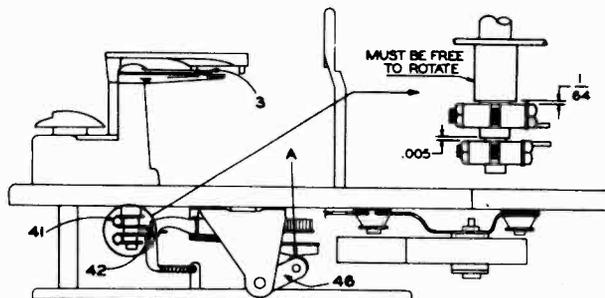
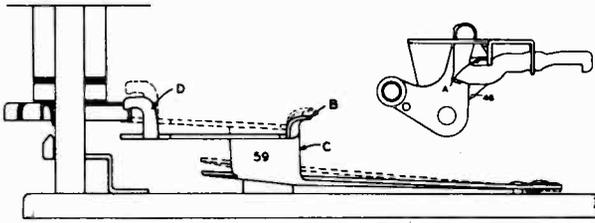

Fig. 5
Fig. 8
1. Turn the Record Shelf (4) to the 12" position.
2. Trip the Reject control and rotate the Turntable clockwise until the push off Blade reaches its farthest forward position. At this point the cam follower will be at the highest point on the Main Cam ("A" of Fig. 5).
3. Loosen the lock bolts of (41) and (42).
5. At the same time, push the Push-off Blade forward as far as possible and push the Push-off Blade and Record Shelf Assembly downward tight against the Housing (6).
6. Position the Record Shelf finger and the Toggle Assembly (41) so the 12" finger of the Push-off
1. Turn the record Shelf (4) to the 12" position.
2. Trip the Reject control and rotate the Turntable until the Push-off Cam Follower reaches the highest point on the Main Cam ("A" of Fig. 5).
3. Loosen the Push-off Blade finger (42) clamp bolt.
4. Push the Push-off Blade forward as far as possible and hold the Push-off Blade and Record Shelf assembly downward tight against the housing (6).
5. Tighten the Push-off Blade finger clamp bolt (42), leaving $\frac{1}{64}$ " vertical clearance between the shoulder of the Record Shelf shaft and the Push-off Blade finger (42).
As explained above, the weight of records on the spindle prevents the Automatic Lock Lever (59) from dropping. As the Cam Lever and Bracket assembly (46) moves forward to engage the Push-off Blade Actuating Lever (42), Fig. 5, point A of the Cam Lever (46), Fig. 8, should also move forward under point B of the Automatic Shut Off Lock Lever (59) to make certain it does not drop until the last record has dropped to the turntable and the Pickup Arm is in position to play. If point A does not engage point B, the Lock Lever (59) will drop to engage the Pickup Arm Raising Disc (36) and the Pickup Arm will return to the rest position without playing the last record.